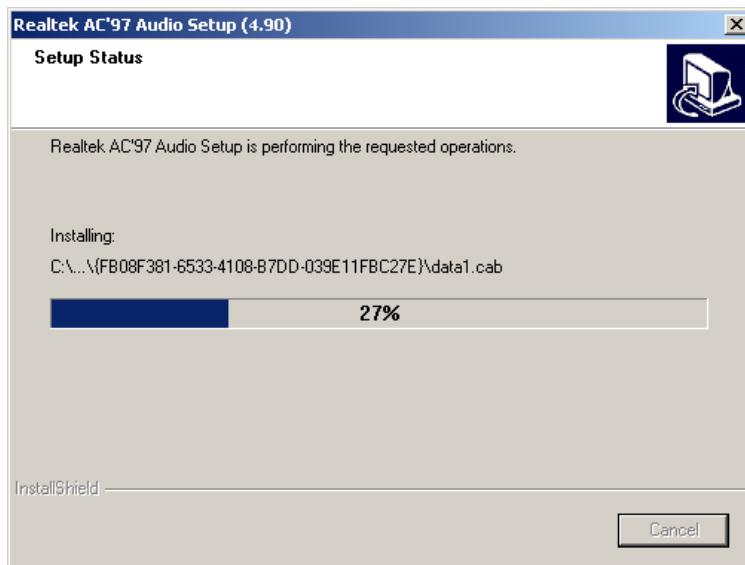

Figure 7-43: Audio Driver Software Configuration
Step 11: InstallShield starts to install the new software as shown in **Figure 7-43**.